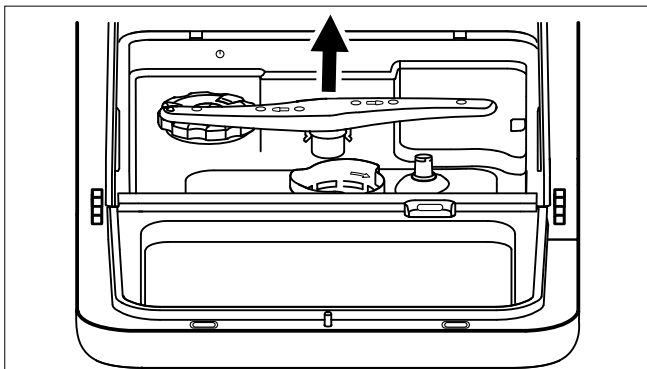

Fig. 25 – Removing the spray arm
- ▶ Remove the spray arm (4) inside the appliance (see **Fig. 25**) to clean it. Lift this slightly and remove it. Clean the spray arm under running water and check that the openings are not blocked. Reinstall it again afterwards.